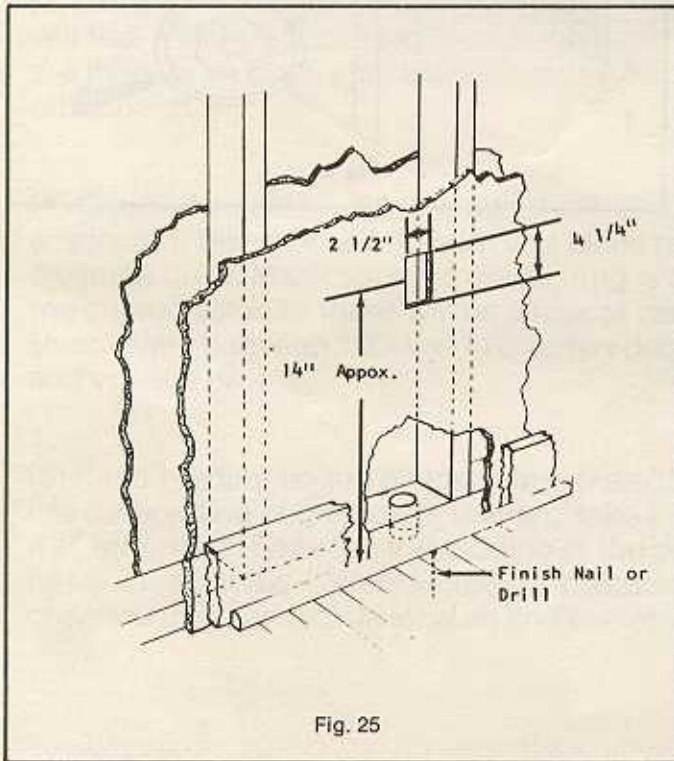

Fig. 25
Before drilling holes or cutting wall openings make doubly sure of your dimensions. Also that there are no obstructions below the point you are planning to come through, such as heating duct or plumbing pipe. This can easily be done by driving a finishing nail or drilling a small hole beside the molding opposite the proposed hole location. The nail or drill can be located underneath the floor to make sure there are no obstructions to prevent drilling. Fig. 25. Locate center line of inlet approximately 14" above floor. Cut opening 2½" wide by 4¼" high. Use a fine-tooth keyhole saw for a clean cut. There is very little overlap of inlet flange to cover errors. Fig. 25.
(1) Drill 2½" diameter hole for 2" PVC tubing, making sure that it is directly below the center of wall opening. Fig. 25.